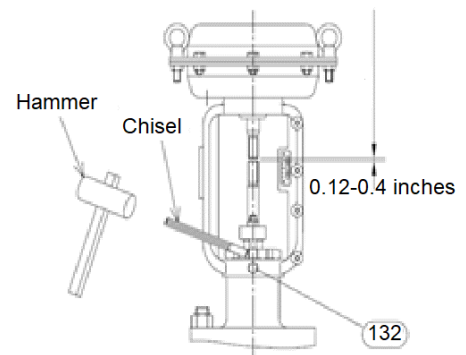

Fig. 14.
- Apply a rectangle-tipped chisel to the concave section of the yoke nut 17 and hit it with a hammer to loosen the nut as shown in Fig. 14.
- When the hex socket set screw 132 in Fig. 14 is loosened, the actuator can be separated from the valve unit.